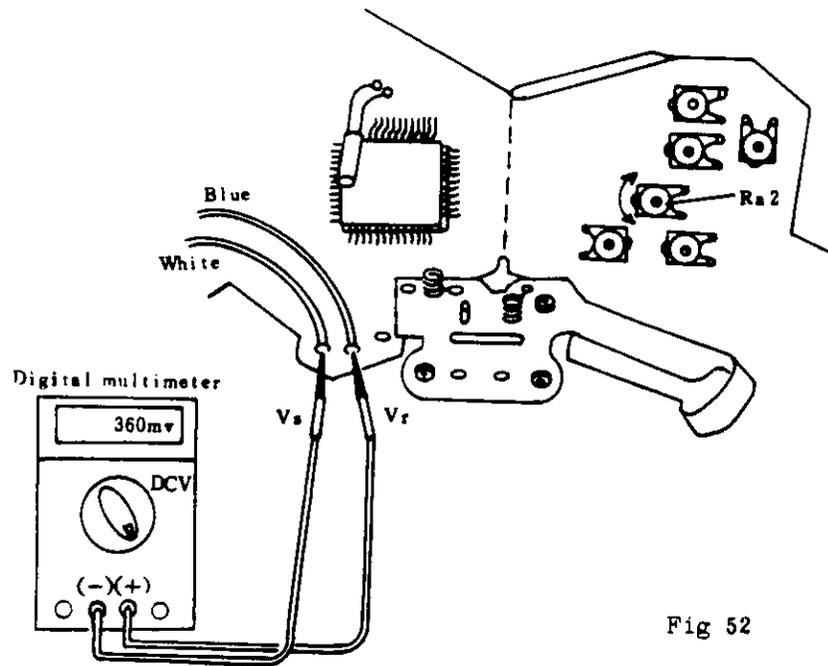

Fig 52
- ① Connect (+) of digital multimeter to Vr, (-) of digital multimeter to Vs, and then read the voltage. See (Fig 52).